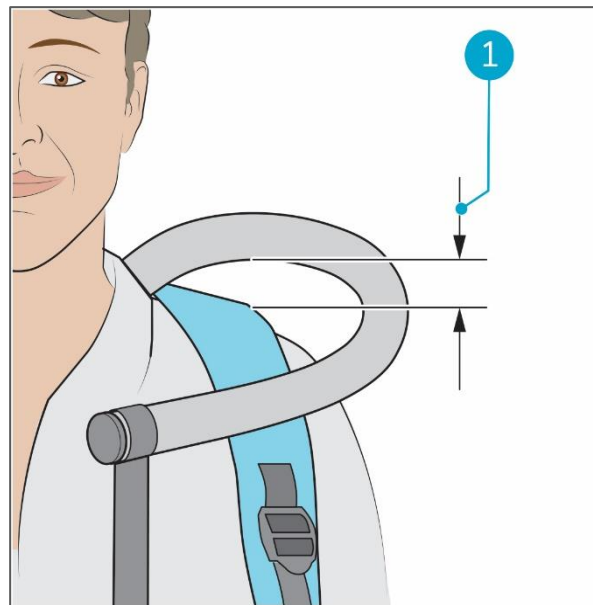

Figure 23
4. Make sure that there is sufficient space ( $\pm 2$  cm) between the tube and your shoulder (Figure 23, pos. 1).